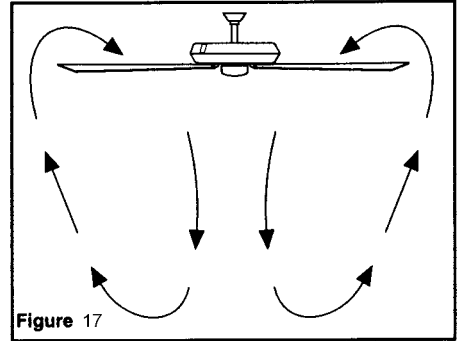

Figure 17
**Warm weather** – (Forward) A downward air flow creates a cooling effect as shown in Figure 17. This allows you to set your air conditioner on a higher setting without affecting your comfort.